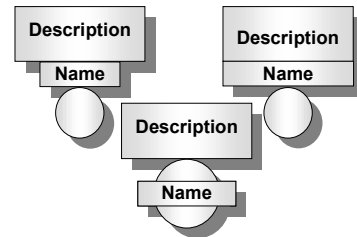

Figure 6 – FTA Software: Name versus *Description*
- This is also the portion of the gate/event the software uses for cut & paste, logic replication, and gate transfers. Figure 6 shows three examples of how several popular fault tree programs display the **Description** and **Name**.